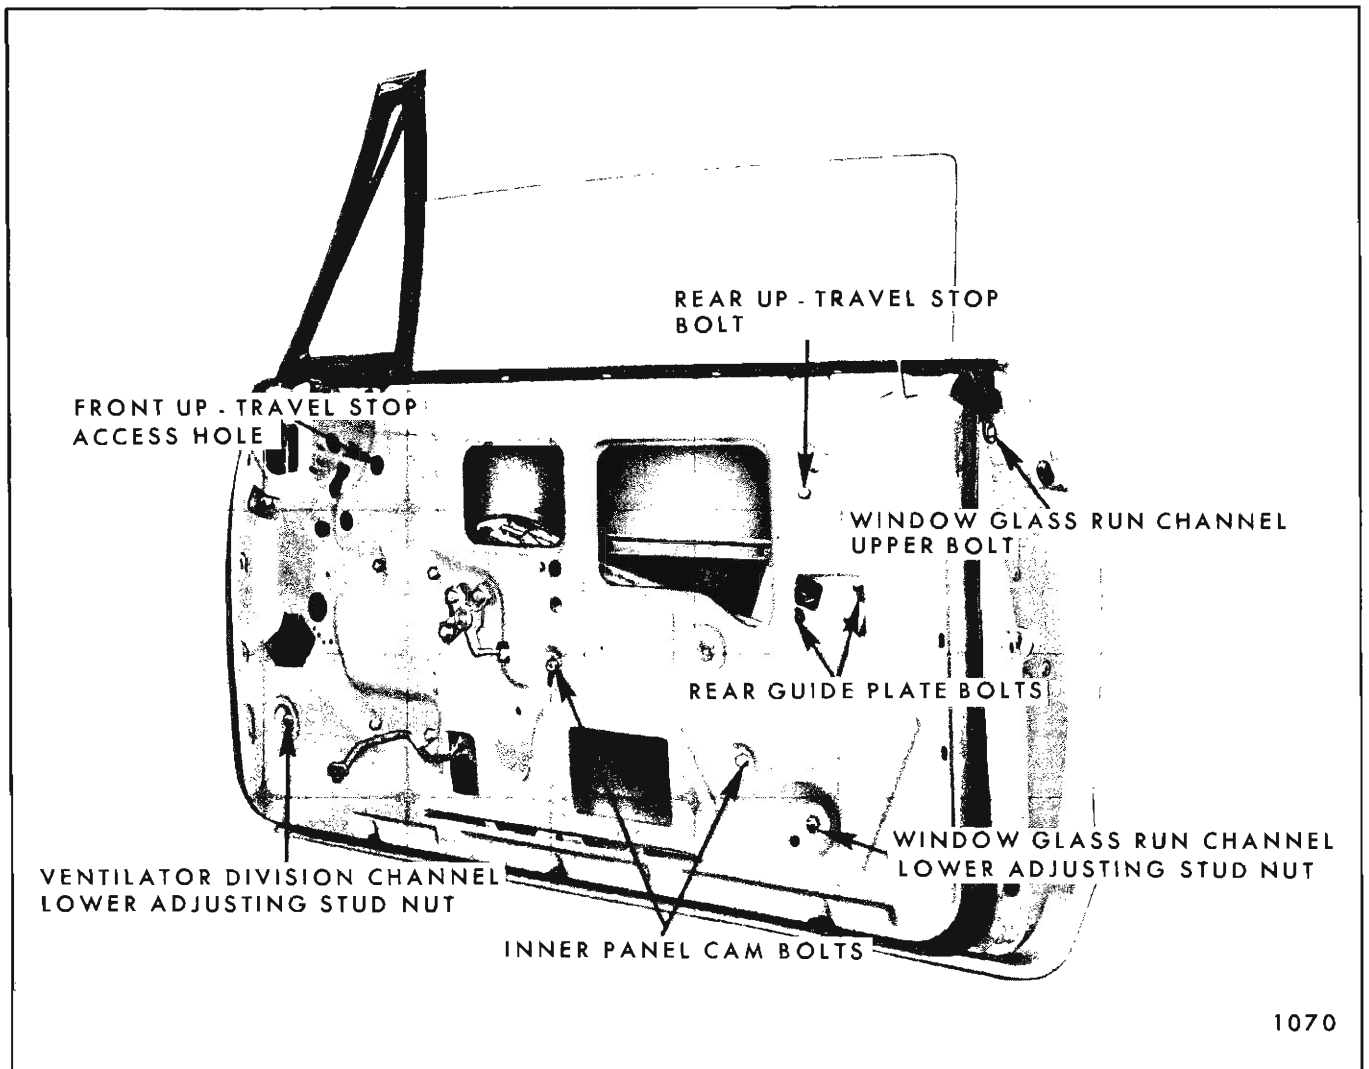

Fig. 1D40—Front Door Hardware Attachment "67" Style
1. To correct a rotated window condition (glass cocked in opening) loosen inner panel cam attaching bolts (Fig. 1D40). Adjust forward end of cam up-or-down as required and tighten bolts.
2. To adjust the top of the window in-or-out in relation to side roof rail weatherstrip on coupe styles, loosen ventilator division channel lower adjusting stud nut and window run channel lower adjusting stud nut (Fig. 1D40). Adjust studs in-or-out as required and tighten stud nuts.
3. To adjust top of window in-or-out in relation to side roof rail weatherstrip on sedan styles, loosen ventilator division channel lower adjusting stud nut and window run channel lower attaching bolt (Fig. 1D39). Adjust division channel stud as required and tighten stud nut. Position lower end of run channel in-or-out as required and tighten attaching bolt.
4. To adjust upper rear edge of glass in-or-out in relation to side roof rail and door beltline, loosen run channel upper attaching bolt and lower attaching bolt or adjusting stud nut depending on body style (Fig. 1D39 or 1D40). Adjust run channel in-or-out as required and tighten run channel attachments.